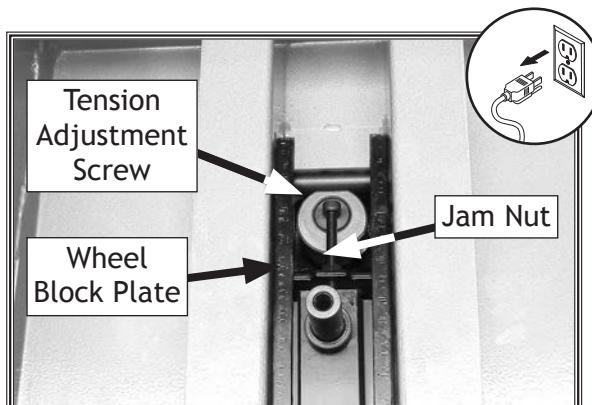

Figure 94. Location of tension adjustment screw, jam nut, and wheel block plate.
4. Loosen jam nut on tension adjustment screw, then loosen screw 7-10 turns (see Figure 94).
6. Tighten tension adjustment screw (see Figure 94) until it contacts wheel block plate, then back it off 1-2 turns.